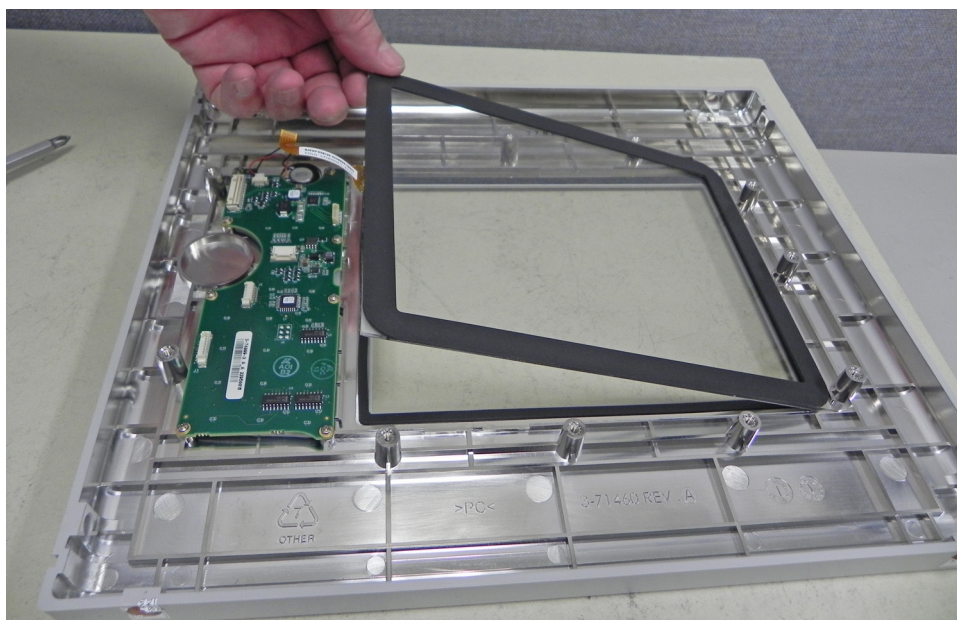

Figure 5-14. Remove Touch Screen
6. Carefully remove the Touch Screen. Reseat the gasket on the front side of the Touchscreen if it is displaced during removal (Figure 5-14).